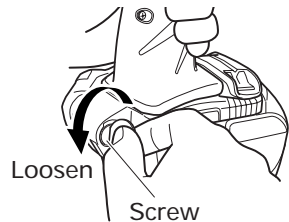

Fig. 6
(2) Switching the hook position
- (a) Securely hold the main unit and remove the screw using a slotted head screwdriver or a coin. (Fig. 6)
- (c) Install the hook and spring on the other side and securely fasten with screw. (Fig. 6)